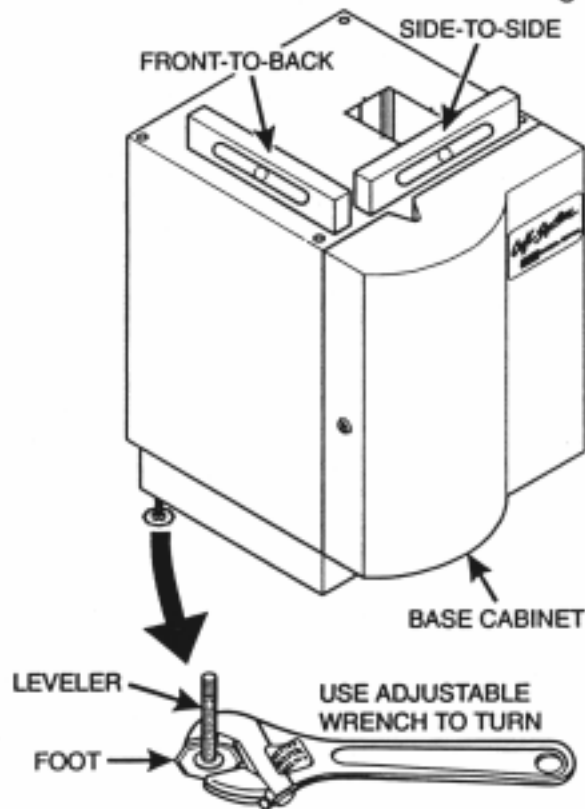

Figure 3
1. Place the base cabinet in its permanent location. Using a spirit level, level the cabinet side to side and front to back using the leveler feet as shown (figure 3).